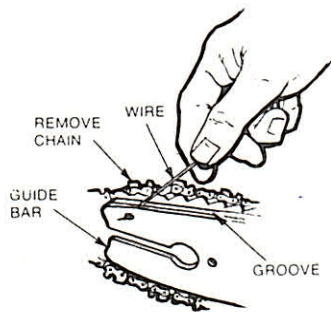

Fig. 10—Cleaning Bar
9.21 Frequently, examine the guide bar for wear. Check that the groove is deep enough all the way around the bar. Rotating the bar helps to equalize wear and increase its serviceable life. Clean out the groove and holes of the bar with a wire. If the groove becomes packed with saw dust, oil cannot reach the chain. See Fig. 10.